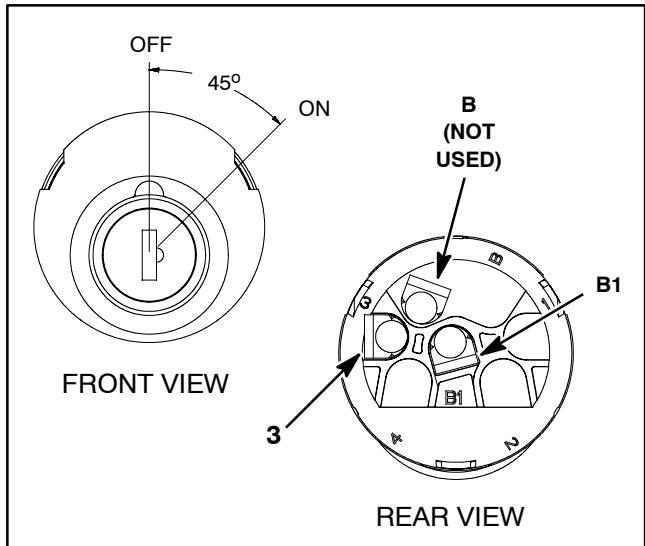

Figure 10
5. With the use of a multimeter (ohms setting), the key switch functions may be tested to determine whether continuity exists between the B1 and 3 terminals for each switch position. The key switch terminals are marked as shown in Figure 10.